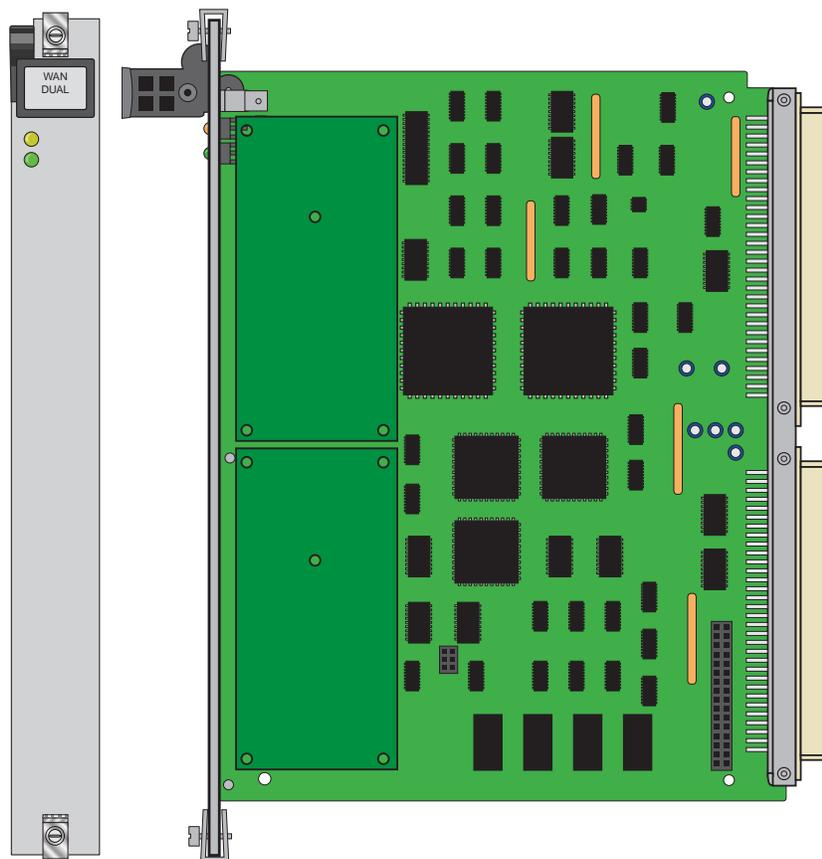

Figure 7-1. WAN DUAL Card
The WAN DUAL card connects to two T1 or E1 lines, or to one of each type. It works with only one DSX/CEPT or CSU plug-in module if the WAN port without either module remains in the standby state (see Figure 7-1). **However, a CGA-Red alarm will be generated for that port.** The WAN DUAL (8010) card works with DSX/CEPT module (811) refer to section 7.3.1 on page 7-4 and CSU Module (812) refer to section 7.3.2 on page 7-15 for more information.